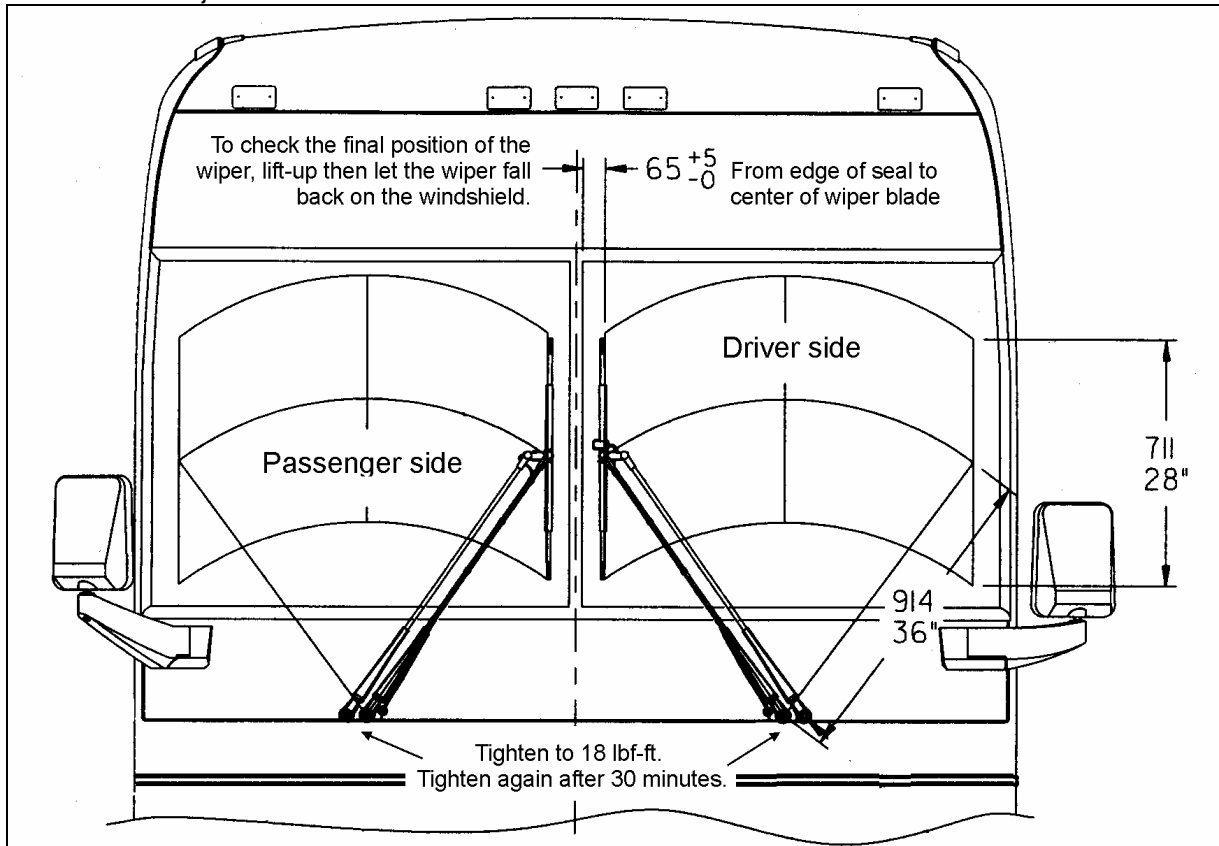

FIGURE 34: WIPER ARMS POSITIONING
1. Reinstall the wiper arms and position as shown in figure 34. Before positioning the wipers at their final position, tighten the nuts to 9 lbf-ft (12 Nm) at first.